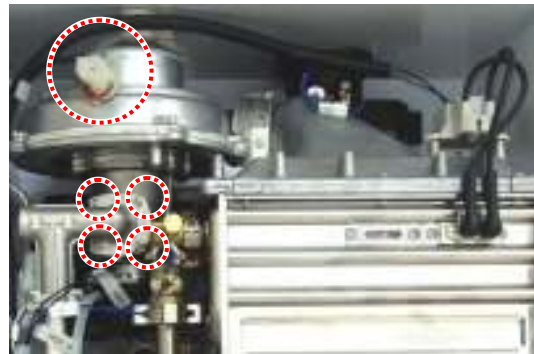

Figure 5
6. Disconnect the wiring connector from the fan assembly, and then remove the 4 screws from the gas valve connection as shown in Figure 5 below.
12. Attach the gas valve connection back to the fan assembly by using the 4 screws as shown in Figure 5.